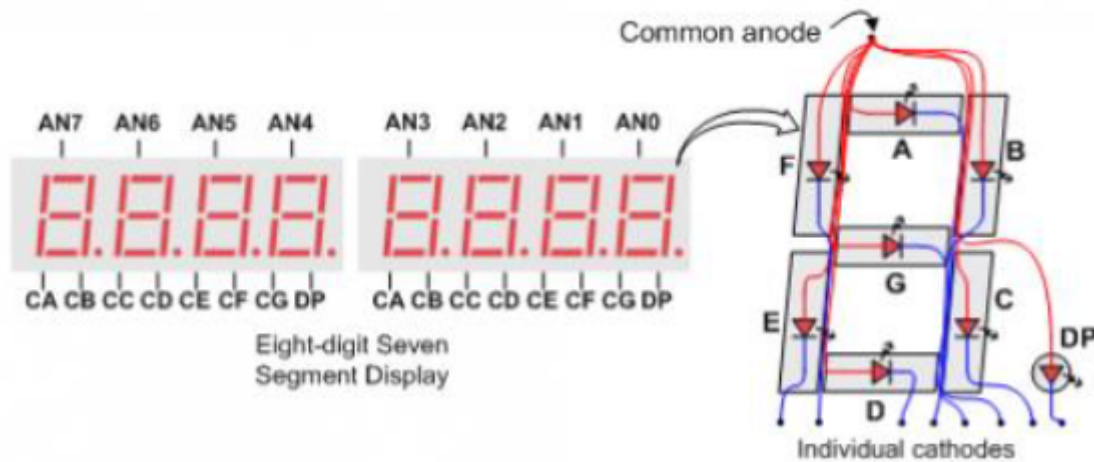

Figure 2: 8-digit seven-segment display in Nexys A7 FPGA board
- You will be given an 'ssd' module to display your messages on SSDs. Figure 2 shows how SSDs operate in Nexys A7 FPGA board. Each SSD (digit) has 8 diodes (A, B, C, D, E, F, G, P). The anodes of all 8 diodes are connected, so they have a common anode. Their cathodes can be controlled separately. To display anything on the SSD, you need to activate the common anode of that SSD (digit) and the cathodes you need to activate. Both anode and cathodes work active-low, meaning you need to assign logic-0 to activate the diodes. For example, if you want to display A on the leftmost SSD, you need to activate AN7 and you need to activate A, B, C, E and F of the leftmost digit. You don't need to do anything for AN7, the 'ssd' module handles it. To do that you need to provide the following inputs to 'ssd' module: